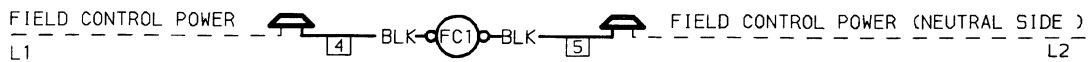

Fig. 5 — Motormaster® Controller Wiring; 09DK 460-Volt and 575-Volt Units
- b. Connect field-supplied wire from FC1 terminal 21 to the primary side of the transformer. See Fig. 5. Connect a field-supplied wire from FC1 terminal 22 to the other primary of the transformer.
- c. Run field-supplied wire from the secondary of the transformer to the capacitor. Run field-supplied wire from the other secondary of the transformer to one of the black wires on the controller. See Fig. 5.
17. Reinstall the fan propeller and fan guard. Ensure that center of propeller is correct distance from top of fan orifice. See Fig. 5.